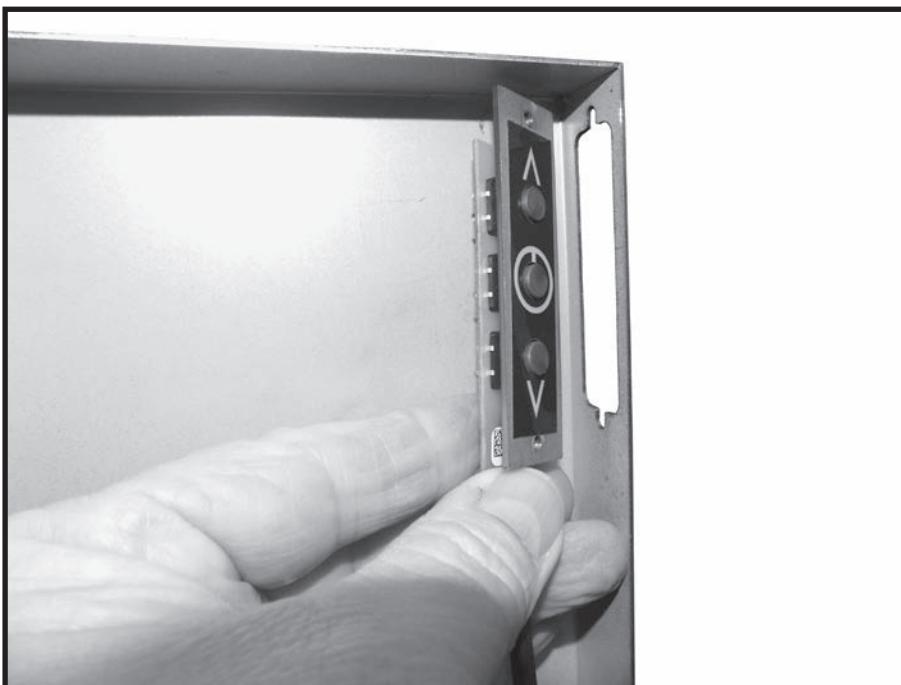

Figure 87: Positioning the switch behind the backing plate opening slot.
2. Position the ON/OFF switch against the open slot on the surround backing plate. Be sure to orient the switch as shown in Figure 87.